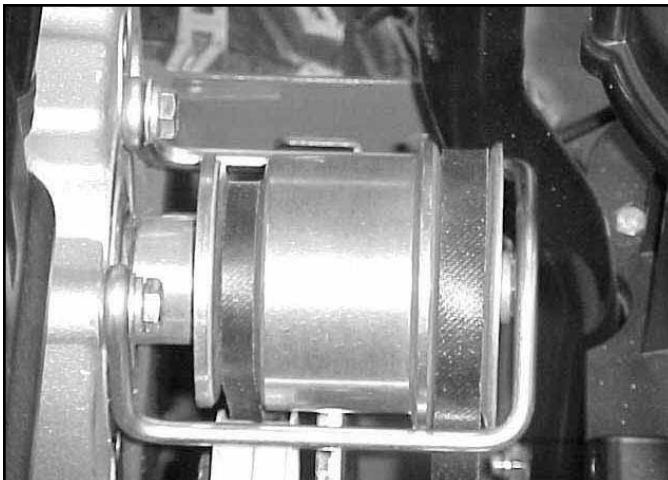

Fig 059
2. Remove the belt guide. Be careful to avoid bending the guide (Fig. 059).